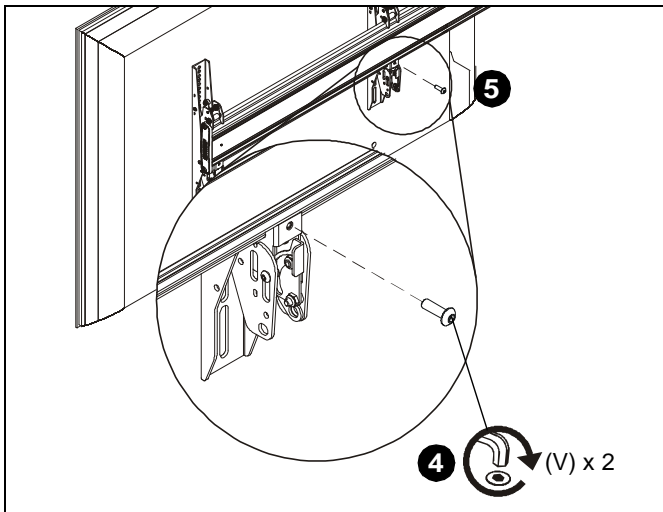

Figure 23
4. Fasten bracket against ceiling mount extrusion using one 10-24 x 5/8" button head cap screw (V). (See Figure 23)